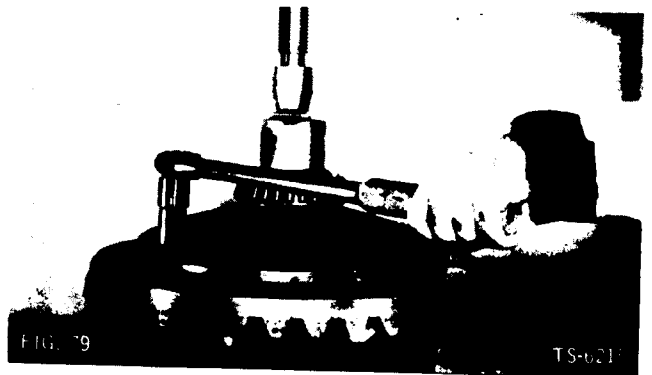

FIG. 79
- Remove nuts that secure ring gear to case half. Place case half and ring gear in press and apply light pressure to hold parts while removing nuts (Fig. 79).